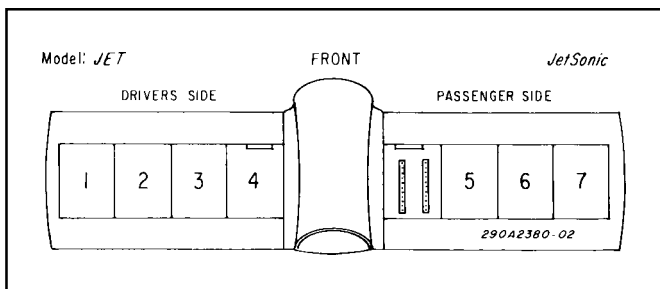

Figure 1.
2. Select the appropriate mounting location for the Model MEDK (see figures 1 and 2). Remove